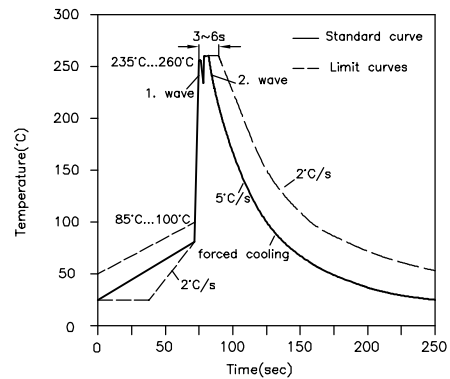

Fig. 6
- Through-hole LEDs: Wave Soldering – Pb-Free Solder (Fig. 5) | Pb-Sn Solder (Fig. 6)